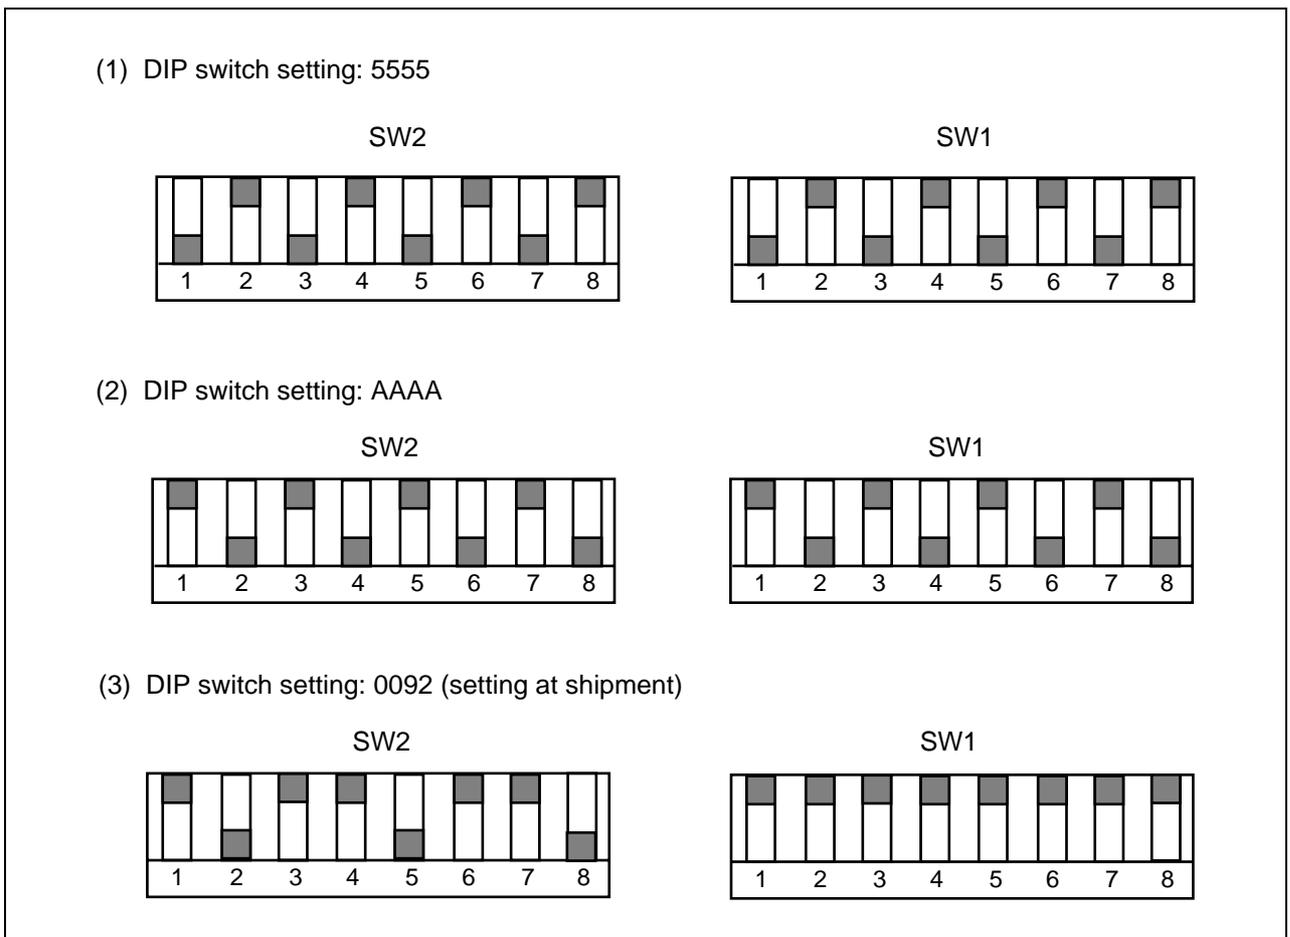

Figure 4.3 DIP Switch Settings
- (3) After setting the DIP switches as shown in figure 4.3 (1), enter Y.
- (4) If no error occurs, the following message is displayed:
(6) After setting the DIP switches as shown in figure 4.3 (2), enter Y.
(7) If no error occurs, the following message is displayed:
(9) After setting the DIP switches as shown in figure 4.3 (3), enter Y.
(10) If no error occurs, the following message is displayed: